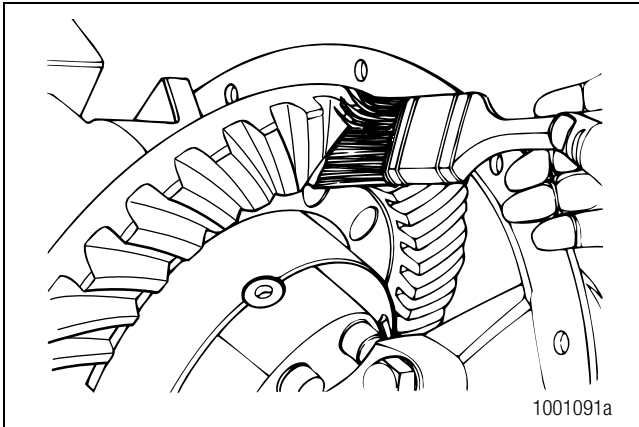

Figure 5.64
- Apply a marking compound onto approximately 12 gear teeth of the ring gear. Rotate the ring gear so that the 12 gear teeth are next to the drive pinion. Figure 5.64.